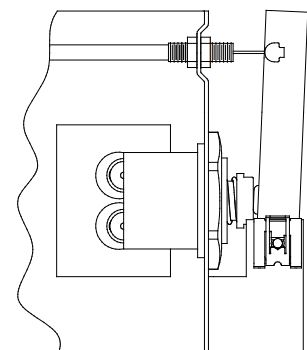

FIG. 6
3. To assemble the operating cable to the sleeve inside the fountain arm you will need to remove cap screw (Item 18, See Fig. 6) and then remove Push Button and Pin (Items 12 & 13, See Fig. 6). Remove screw (Item 20, See Fig. 6) and you will now be able to remove the Sleeve (Item 7, See Fig. 6) to get access to the adjustment nuts for additional adjustability. (Fountain should be mounted to exterior wall). The adjustment nuts should be at the base of the threaded area on the operating cable. See Fig. 6. Create a loop in the cable and thread the free end of the cable through the wall into the freeze resistant box.
5. Remove cable free play by adjusting the jam nuts on the ends of the operating cable. See Figure 6.